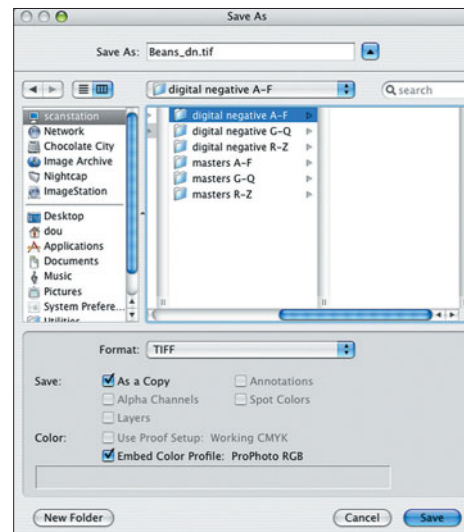

Figure 7.53
2. Save a copy of the unmodified scan for archiving purposes (see Figure 7.53).